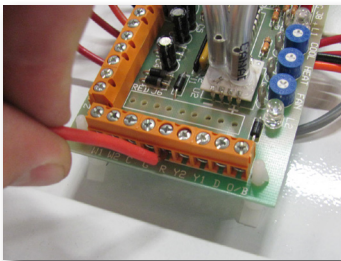

Fig. 12a
12. Re-wire thermostat connections, line in and ground wires to the air handler. (Figs. 12a, 12b)